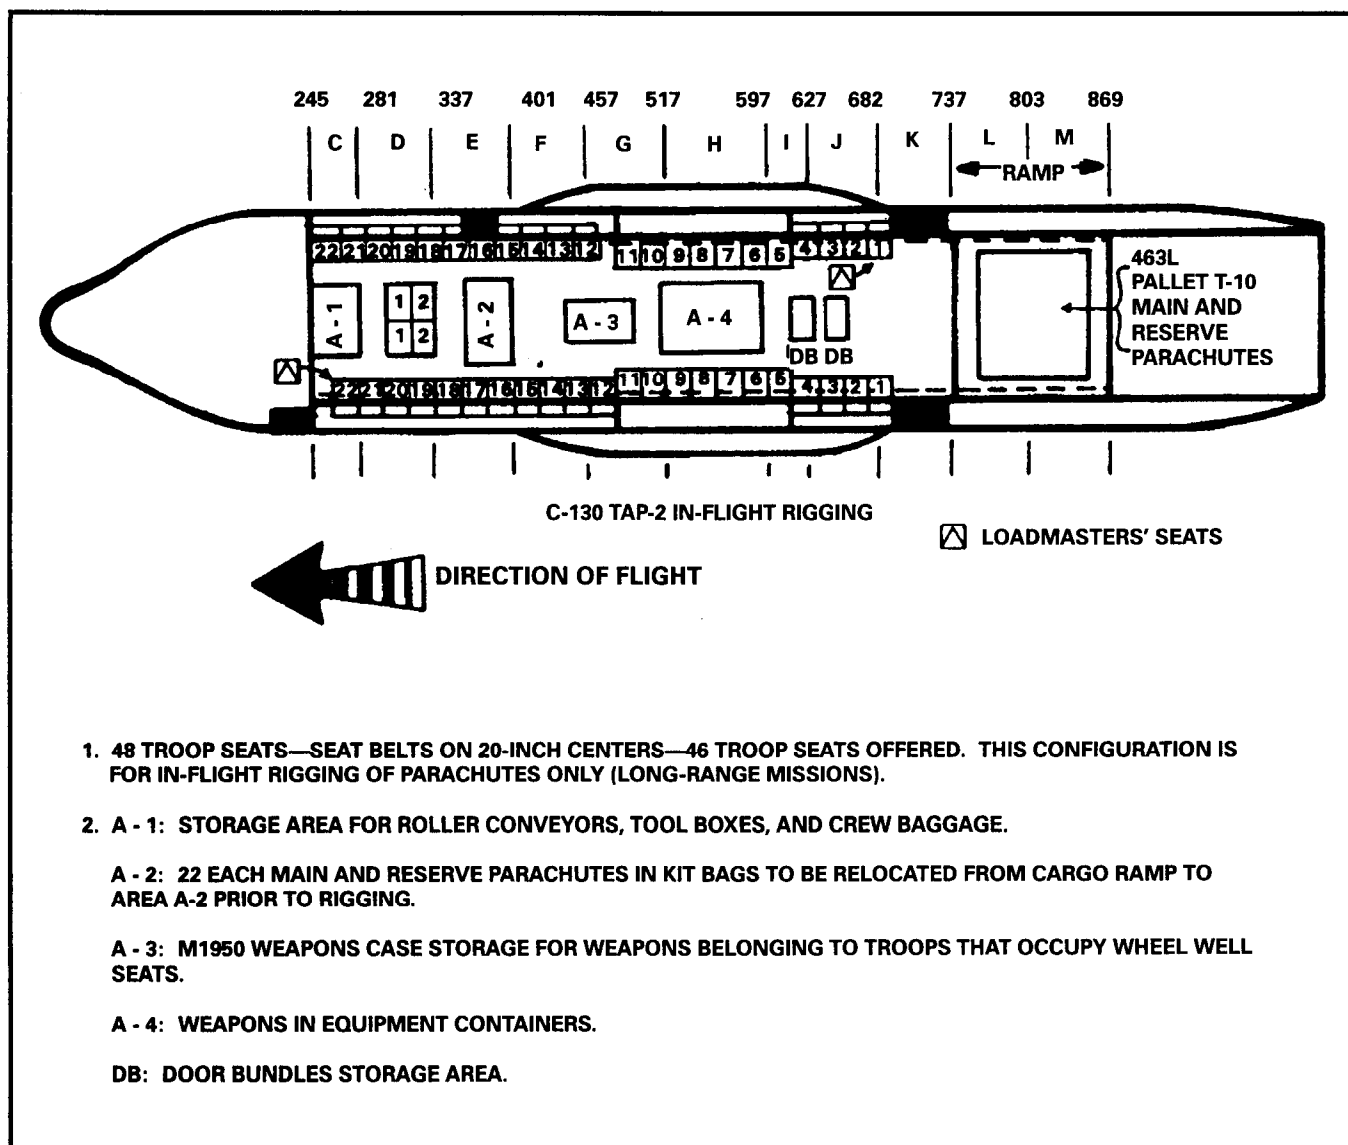

Figure 16-3. C-130 configuration for in-flight rigging (48 seats).
c. **Aircraft Configuration.** The aircraft is TAP 2 configured to seat a total of 48 personnel to include 2 loadmasters, 2 nonjumping safeties, and 44 parachutists (Figure 16-3).